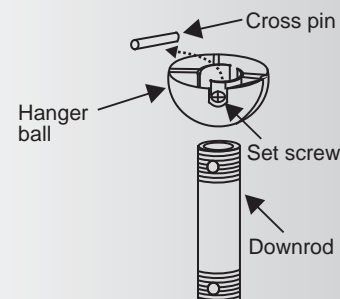

Fig. 7
Step 5. Remove the hanger ball from the downrod assembly by loosening the set screw, removing the cross pin and sliding the ball off the rod. (Fig.7)